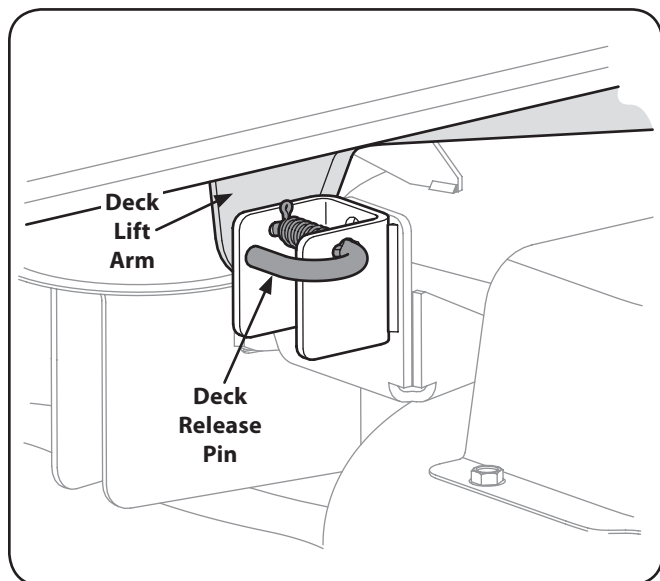

Figure 7-7
- Locate the LH and RH deck release pins on each side of the deck. Pull the release pins outward and release the deck from the LH and RH deck lift arms. See Figure 7-7.
- Pull the deck release pins outward and maneuver the deck as necessary to align the holes in the deck lift arms with the pins. Refer to Figure 7-7.